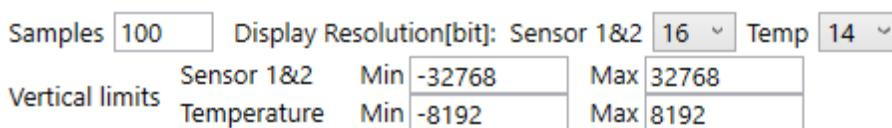

Figure 163. Selected Display Resolution
**Note:** when "As Visualized" is active, the data saved on file are stored in decimal format taking in account the display resolution selected, see Figure 163.